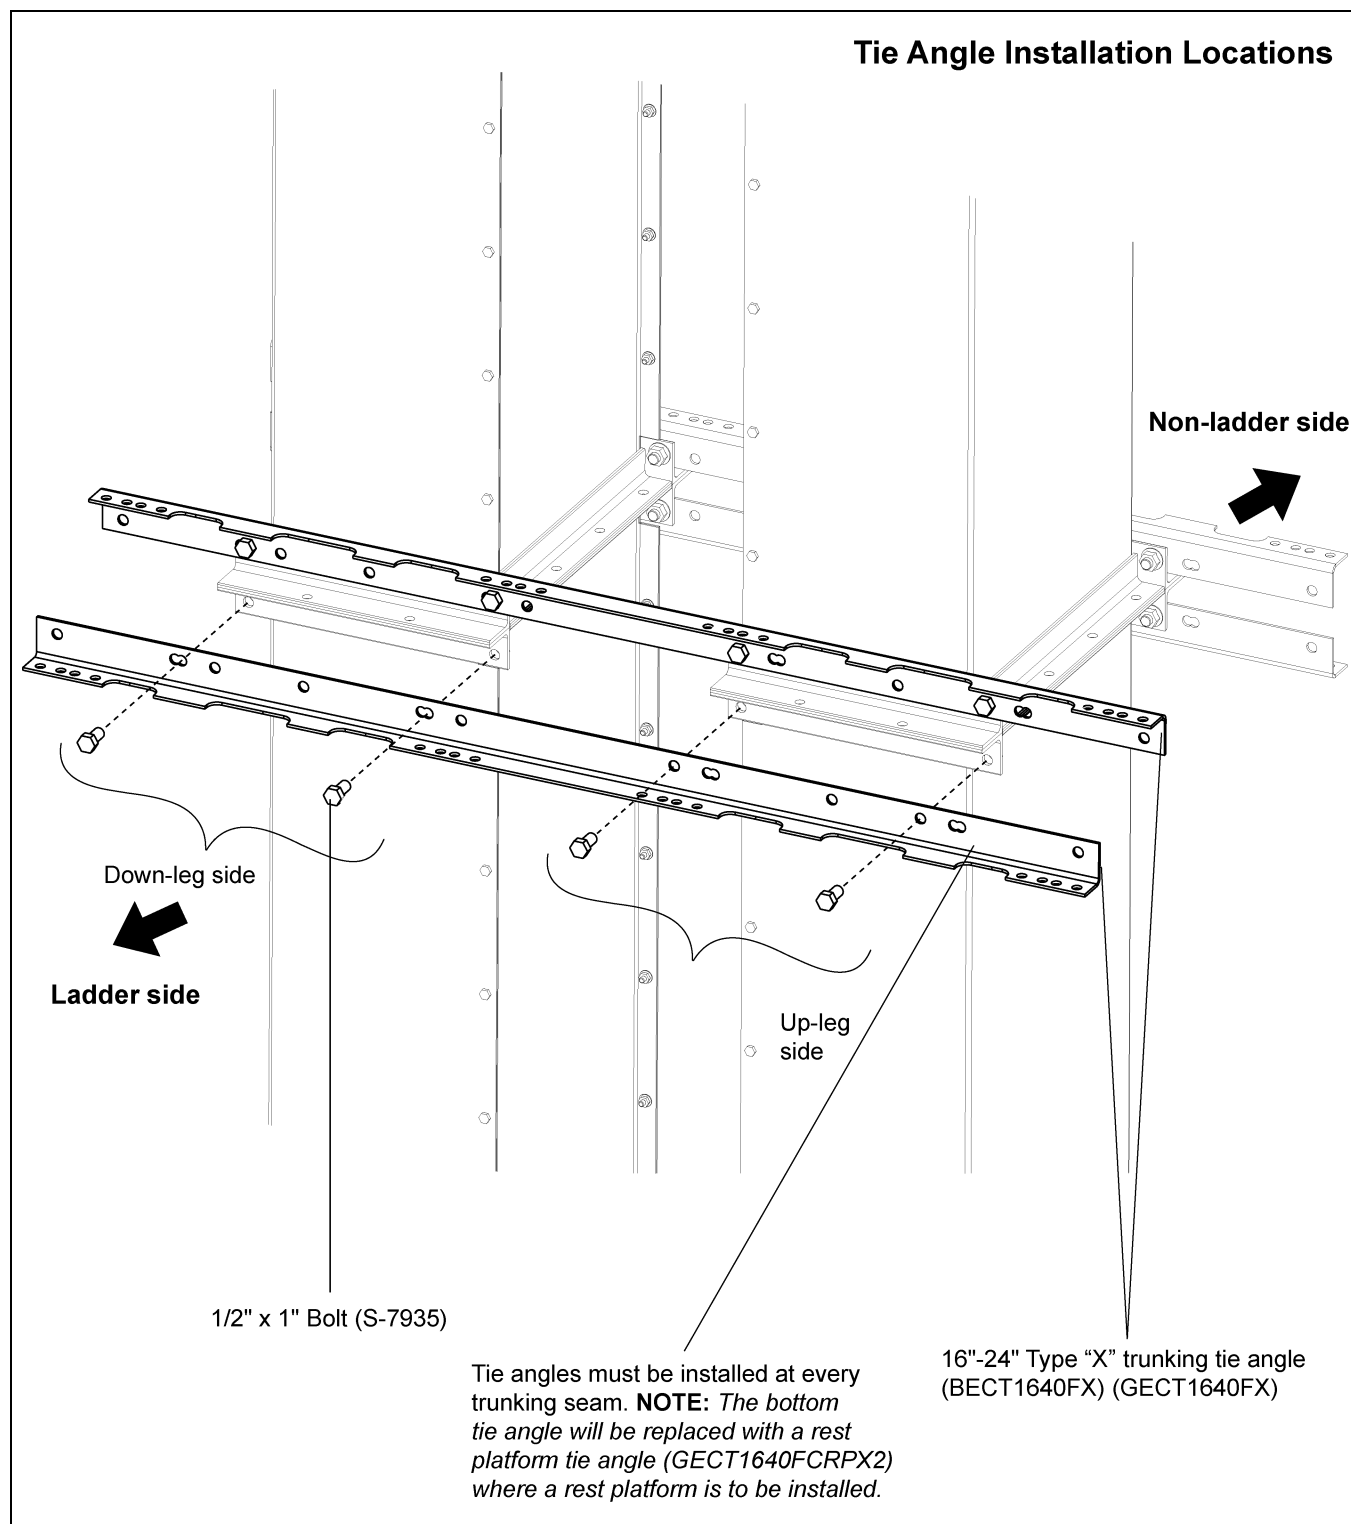

Figure 6I Tie Angle Installation Locations
1. On the LADDER SIDE, use 1/2" x 1" bolts. *See Figures 6I-6K on Pages 24-26* for the correct location of bolts for each elevator size.